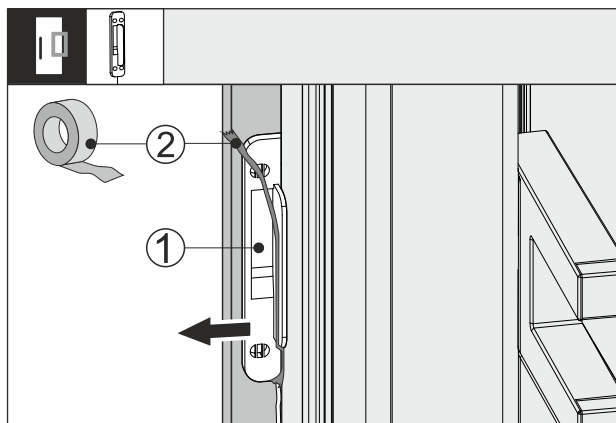

Fig. 64
- ▶ Odstranite lepilni trak Fig. 64 (2) s sensorja trkanja Fig. 64 (1).